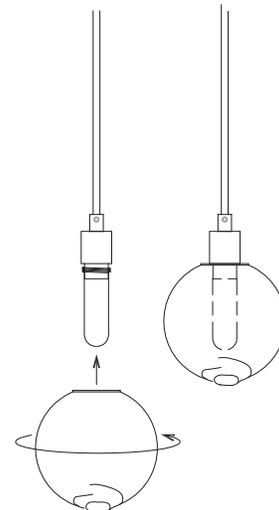

Figure 5. Install glass spheres by threading onto brass sockets
- 10 Carefully slip the glass spheres over the light bulbs and tighten onto the threads on the outside of the sockets (figure 5). Thread on just until they are visually tight - do not overtighten.